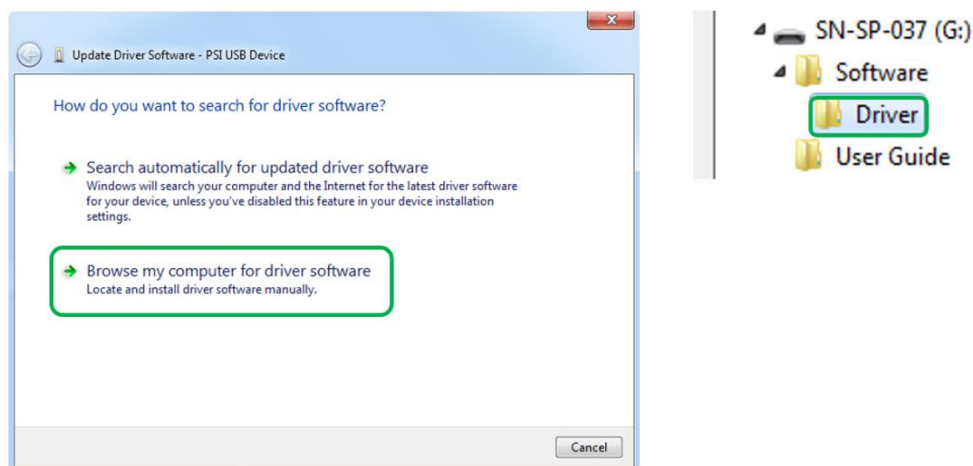

Fig. 21 Choose the driver from the USB disc.
- Click **Browse** my computer for driver software and select Driver folder on the SpectraPen installation disk. Allow the installation even if the warning message appears (Fig. 21)